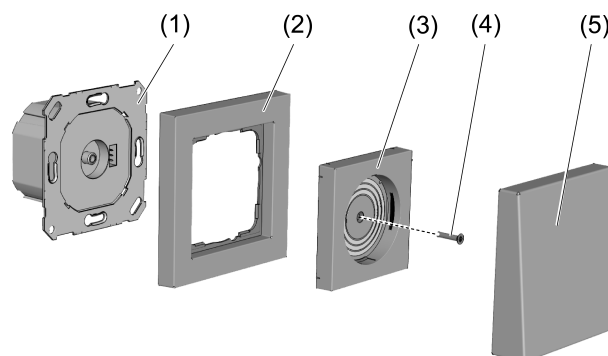

Figure 1
- Mount the frame and cover and attach the light attachment (Figure 1).